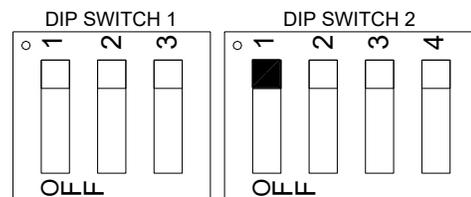

Figure 1
- ZPA modes (single or slug release) can be selected by the DIP switch #2-1 setting (Figure 1)